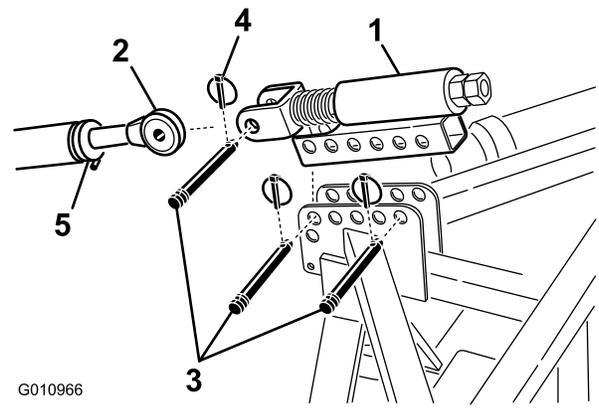

Figure 10
3. Connect the tractor upper link to the clevis on the spring loaded top link and secure with a link pin and lynch pin (Figure 10).
6. Rotate the upper link until the spring is compressed by about 13 mm (1/2 inch) (Figure 10).
1. Mount the spring loaded top link to the aerator bracket with two link pins and lynch pins (Figure 10)
2. Loosen the lock nut on the tractor upper link. Adjust the upper link length until it aligns with the clevis on the spring loaded top link of the aerator (Figure 10).